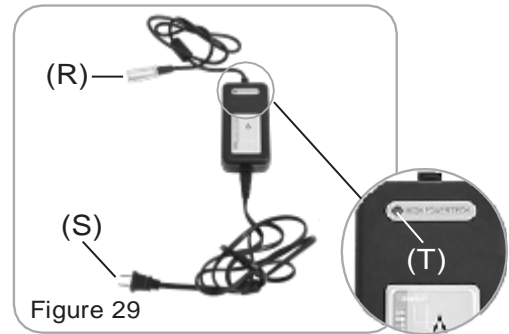

Figure 29
• Output Voltage: 100V~240V (Figure 29)
1. Charger output cable, 4pins  connector (R)
2. AC power cord (S)
3. LED Indicator (T)